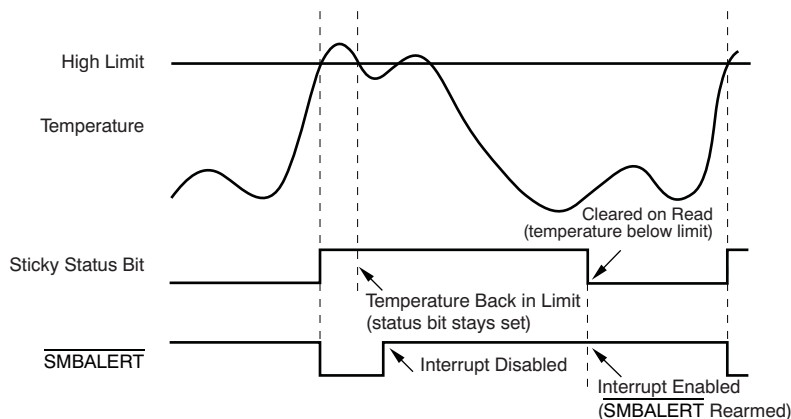

Figure 32. **How Masking the Interrupt Source Affects SMBALERT**
7. Periodically poll the status registers. If the interrupt source bit has cleared, reset the corresponding interrupt enable bit to '1'. This reset makes the SMBALERT output and status bits behave as shown in Figure 32.